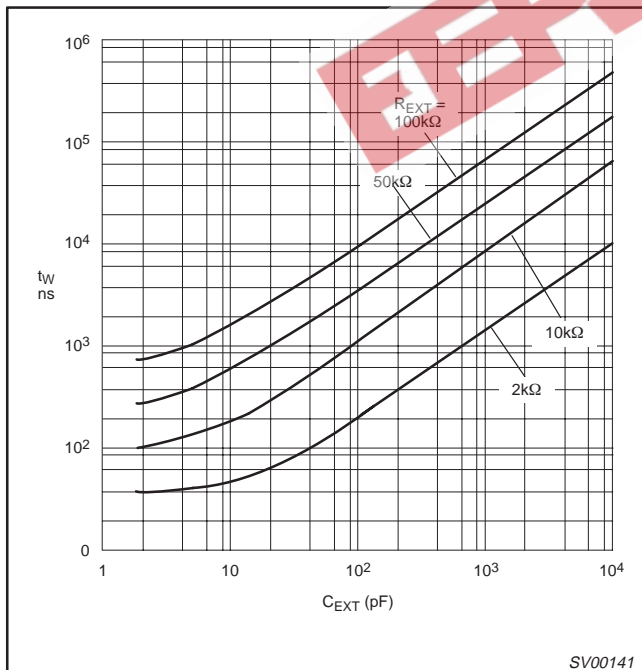

Figure 6. Typical output pulse width as a function of the external capacitor values at $V_{CC} = 3.3\text{V}$ and $T_{amb} = 25^\circ\text{C}$.
- For other R_{EXT} and C_{EXT} combinations see Figure 6.